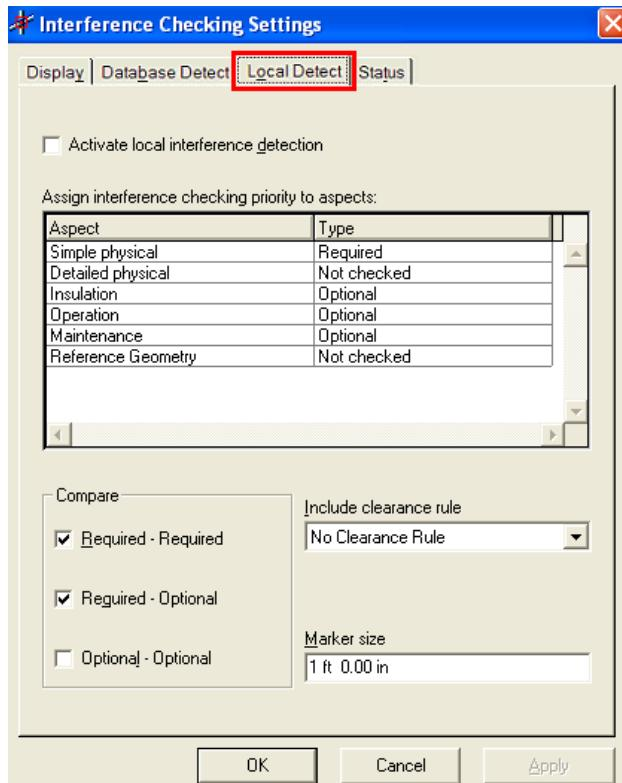

Figure 8: Interference Checking Settings Dialog Box
2. The **Interference checking** ribbon will appear. Click the **Settings** option on the **Interference Checking** ribbon. This will open the **Interference Checking Settings** dialog box. Click the **Local Detect** tab on this dialog box (Refer to Figure 8).